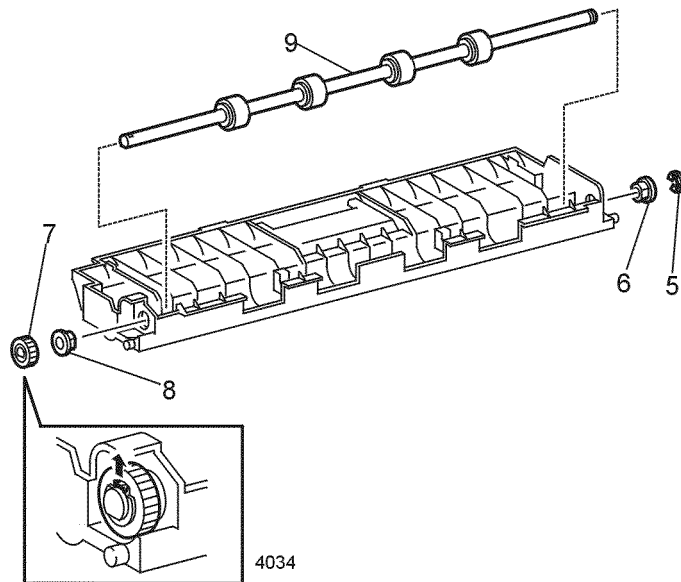

Figure 1 Lower Turn Roll Assembly
8. Remove the left bearing (Figure 1).
9. Move the Lower Turn Roll Assembly to the left until the right end is free of the assembly (Figure 1).